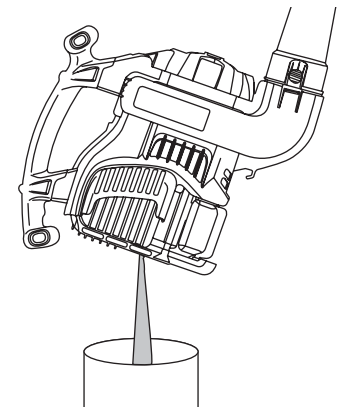

Fig. 25
2. Pour the oil out of the oil fill hole and into a container by tipping the unit to a vertical position (Fig. 25). Allow ample time for complete drainage.